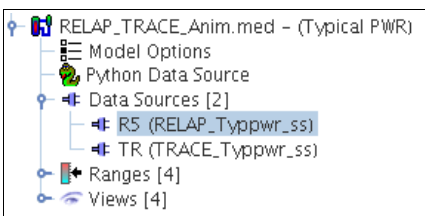

Figure 9: Data Source Navigator
11. Expand the Data Sources node in the navigator, as shown in Figure 9. Select the first node which is labeled R5, and open the Source Run URL editor. This opens a dialog which displays the available calculations for animation.